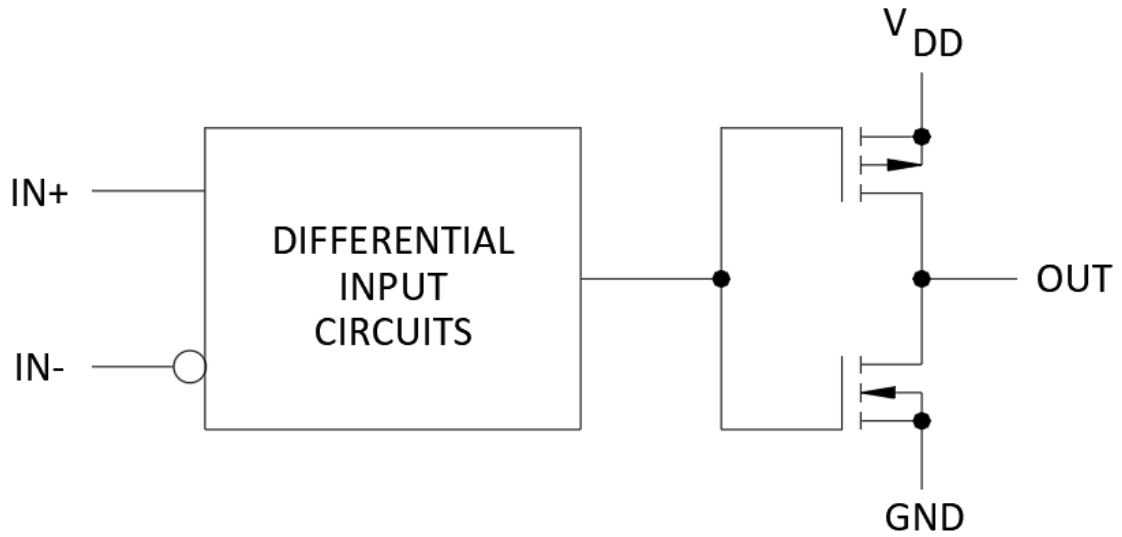

FIGURE 3. Block diagram.
3.5.3 Logic diagram. The logic diagram shall be as shown in figure 3.